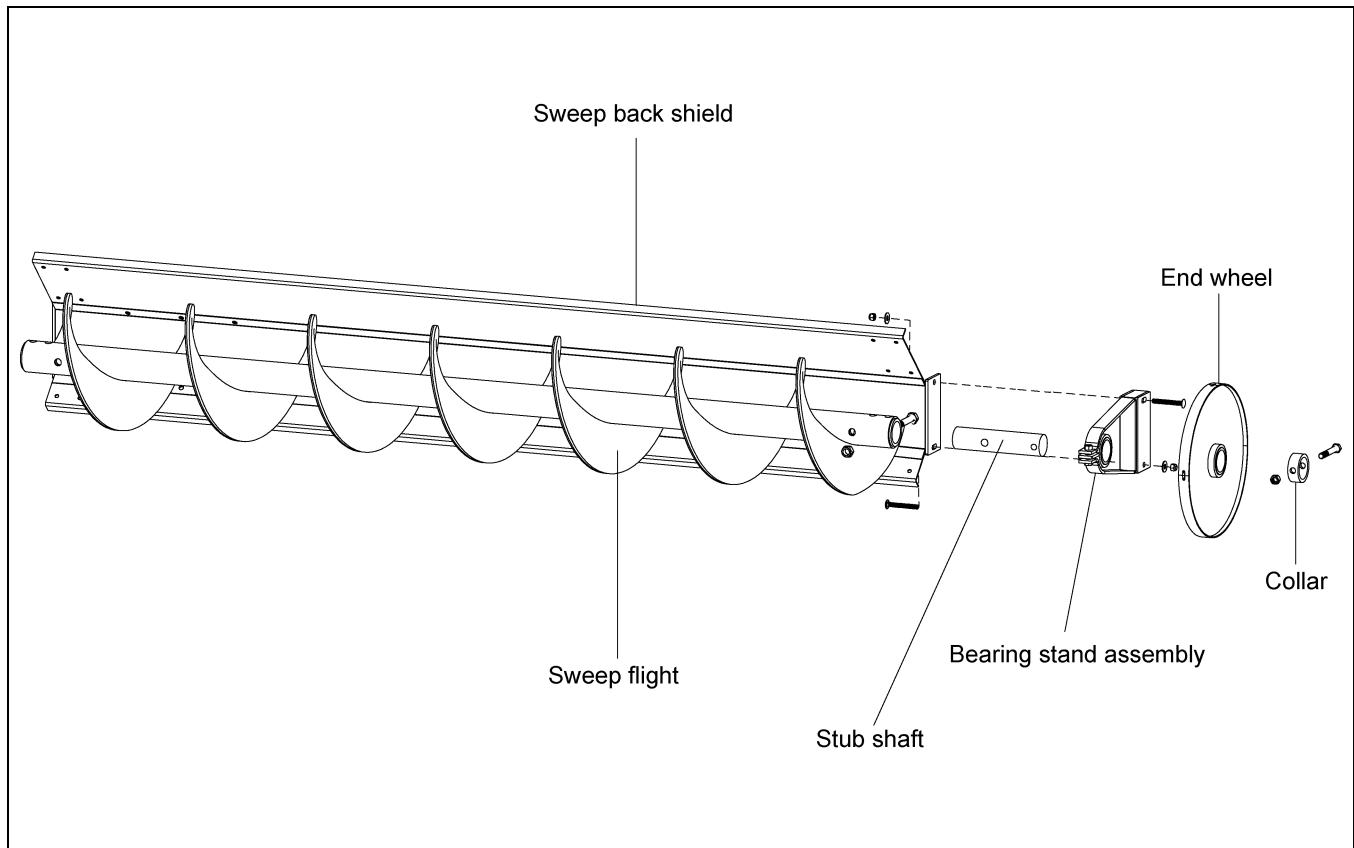

Figure 4L End Wheel Assembly
2. Install the bearing stand assembly onto the stub shaft and bolt it to the sweep shield using two (2) 3/8" x 3" carriage bolts, flat washers and nylock nuts.
3. Install the end wheel and collar onto the end of the stub shaft. Pin the collar in place with a 1/2" x 3-1/2" hex head cap screw and prevailing torque lock nut. *(See Figure 4L.)*